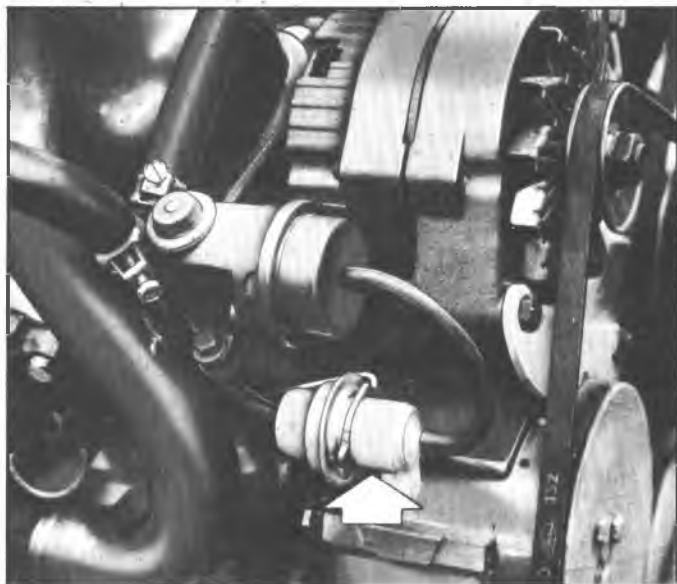

Fig. 4f—Diverter Valve Vent Valve
**NOTE:** A diverter valve vent valve is used with 292 cu. in. engines and 454 cu. in. engines in C20 (except suburban) C30 and P30 Series vehicles originally sold in the state of California. This diverter valve vent valve is employed to shut off the air injection at manifold vacuums above 18" Hg. in order to prevent excessive charge dilution and increased emissions at high inlet manifold vacuums. The vent valve functions by venting the diverter valve diaphragm to atmosphere at vacuums above 18" Hg. (fig. 4f).